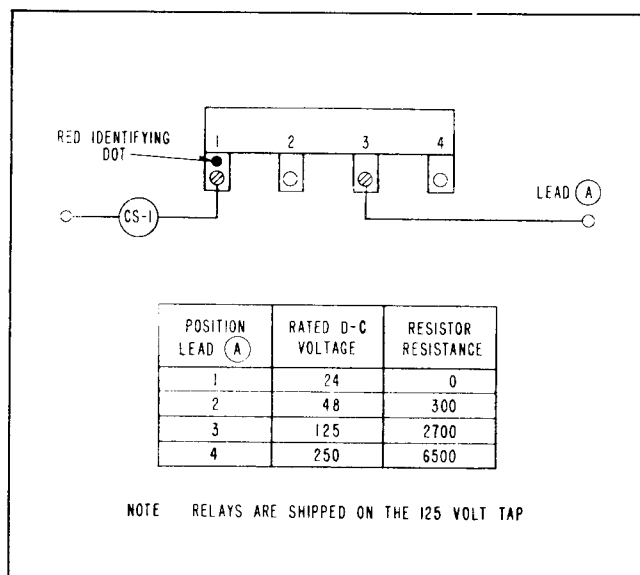

Fig. 6. Selection of Proper Voltage Tap for Auxiliary Switch (CS-1) Operation.
No setting required on the CS-1 unit except for the selection of the required 24, 48, 125 or 250 volt-age on the tapped resistor. This connection can be made by referring to Fig. 6.
Connect lead (A) to proper terminal per Fig. 6. Block directional unit (D) and I contacts close and energize trip circuit with rated voltage. Contacts of